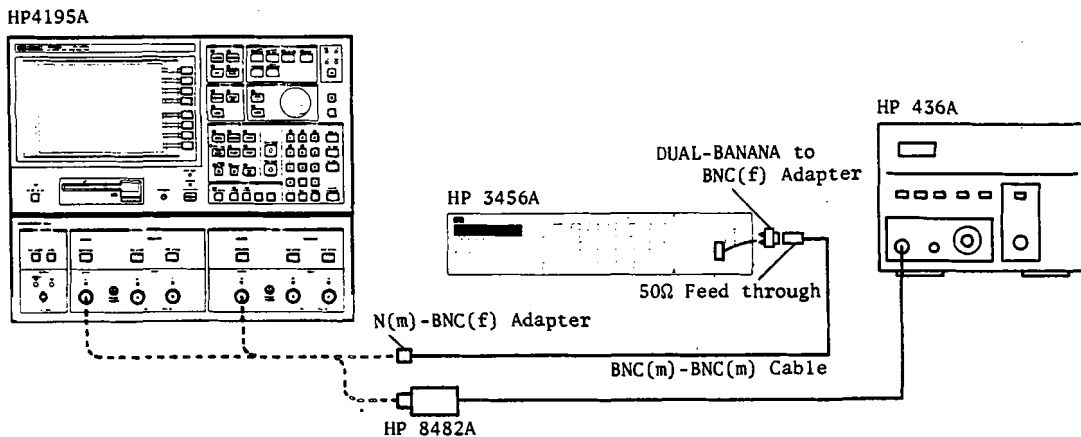

Figure 2-10. Level Accuracy/Flatness Test Setup
2. Connect the Digital Voltmeter **INPUT** to HP 4195A **OUTPUT S1**, as shown in Figure 2-10 (use a 50 Ω Feedthrough on the Digital Voltmeter input).